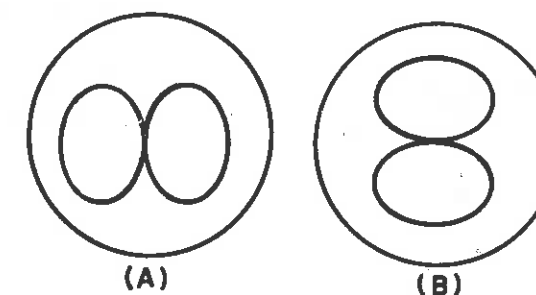
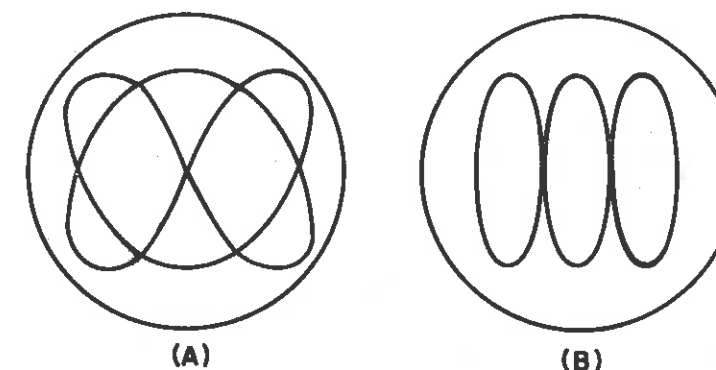

Fig. 7—Lissajous figure for a frequency ratio of 2 to 1. In (A) the higher frequency is applied to the vertical plates and in (B) to the horizontal plates.
Fig. 8—Lissajous figures for the frequency ratios of 3 to 2 (A) and 3 to 1 (B).
If the two voltages are at different frequencies, a pattern known as a Lissajous Figure will be produced on the screen. For various ratios of the two frequencies definite patterns are produced. For a ratio of 2 to 1 the pattern is as shown in Fig. 7. The patterns for the ratios of 3 to 2 and 2 to 1 are shown in Figs. 8 (A) and (B). The formula for determining the frequency ratio from inspection of the pattern is based upon the number of times the curve of the pattern touches a hypothetical horizontal line at the bottom of the pattern and the number of times it touches another hypothetical vertical line at the one side of